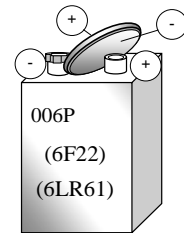

Fig. 4
* When using the stored battery, please remove the tape perfectly to avoid high contact resistance problem. (Refer fig.4)